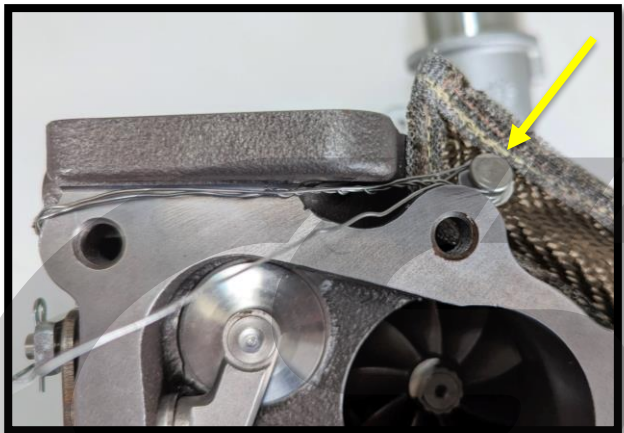

Figure 2f
- f) While maintaining tension on the wire, wrap it back around the first button rivet as seen below in **Figure 2f**.